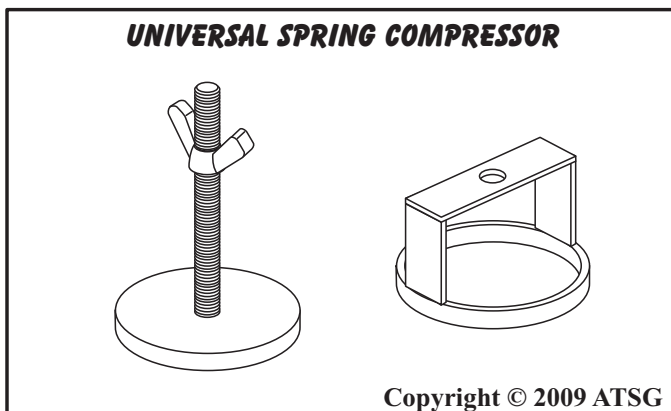

Figure 57
53. Assemble universal spring compressor shown in Figure 57 through the rear of case so we can compress the reverse brake clutch piston return spring.